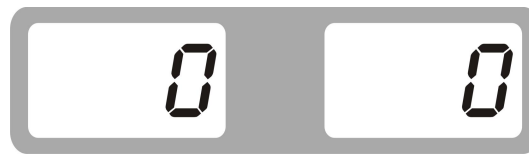

Fig. 8
4.2.7. After finishing mounting the counterweights, put down the guard and press **START**, to perform balancing spin again, if comes out 00 00, means balancing succeed. (Fig.8)